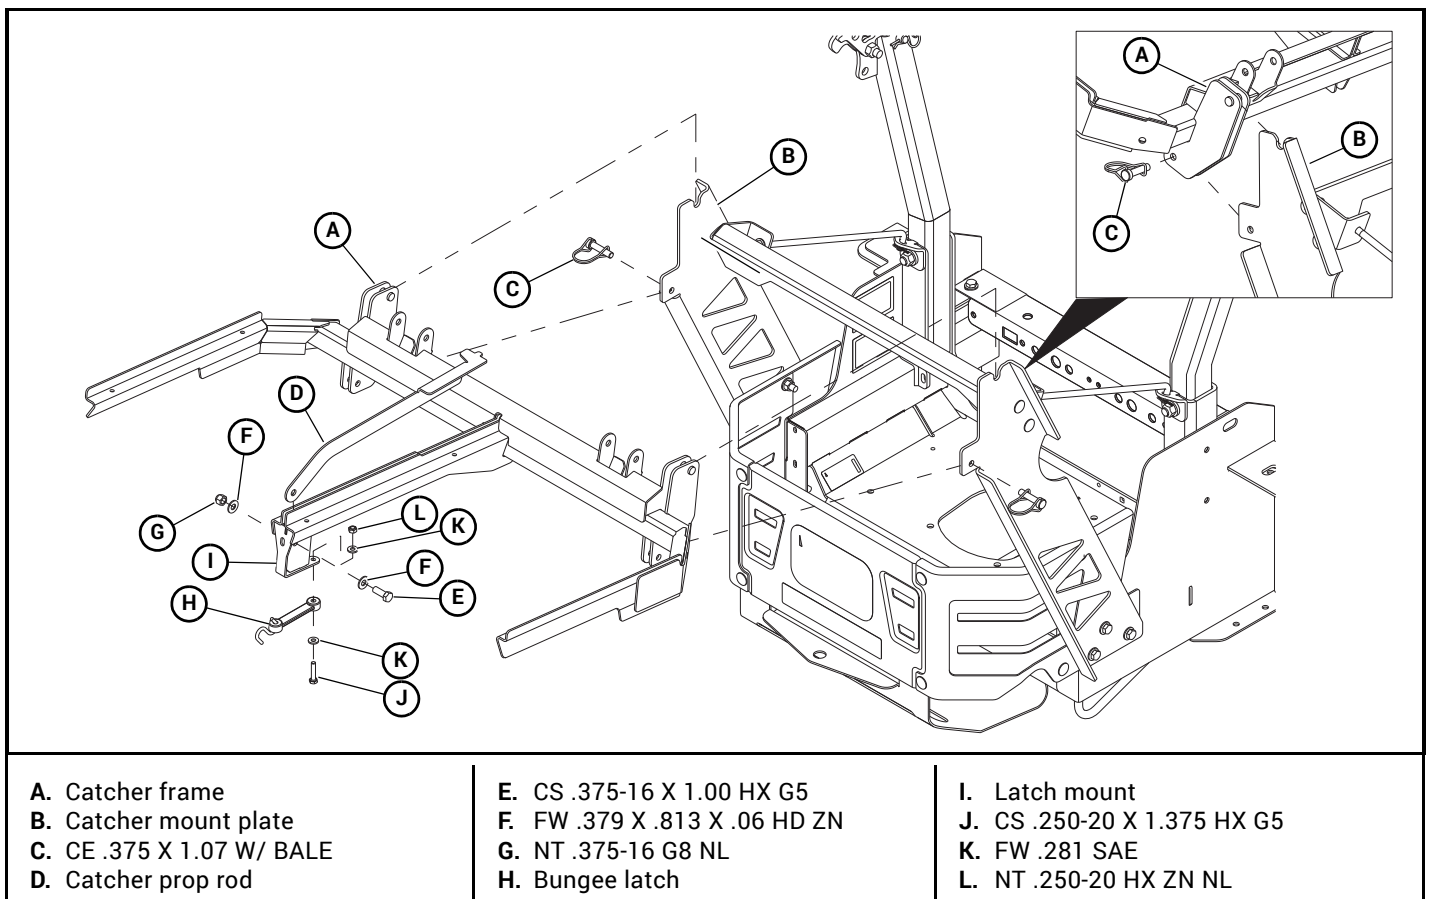
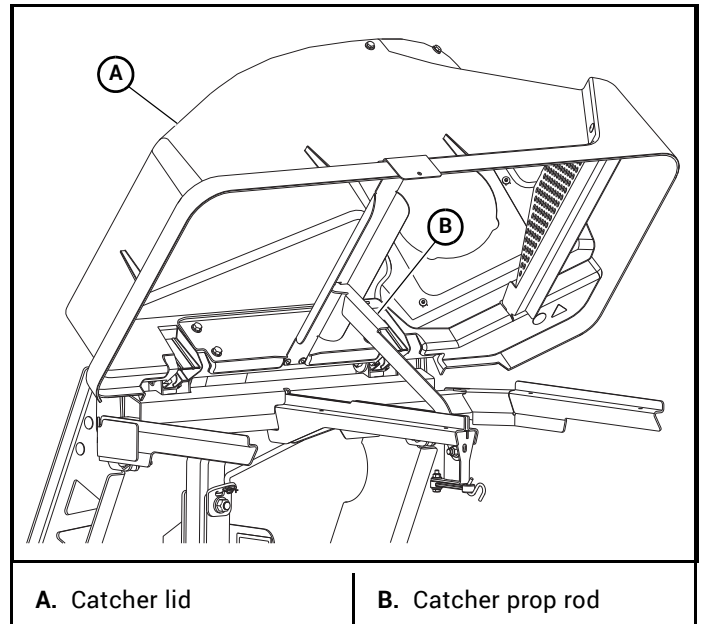

Figure 3-3
Figure 3-6
6. Attach the catcher frame to the catcher mount plates as shown. Tighten the tension rods until the bale pins fit in the holes on the catcher frame. Tighten the hardware on the side mount plates and the tension rods. Figure 3-3
7. Install the catcher prop rod on the center support arm of the catcher frame with the hardware provided as shown. Tighten the hardware just enough so the prop rod can move freely. Figure 3-3 & Figure 3-6
8. Attach the bungee latch to the center support arm of the catcher frame with the hardware provided as shown. Figure 3-3
11. Raise the lid to check the prop rod function. Figure 3-6